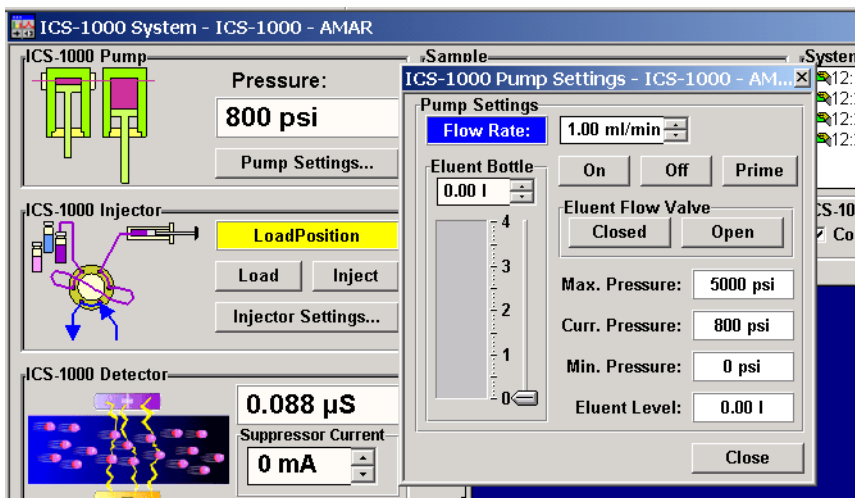

Figure B-36. Chromeleon Control Panel: Pump Settings
4. On the Chromeleon Control Panel, click **Pump Settings** and then click **Eluent Flow Valve Open** (see Figure B-36).
3. Click **Prime** on the Chromeleon Control Panel (see Figure B-36). The pump will begin pumping at approximately 3.0 mL/min.